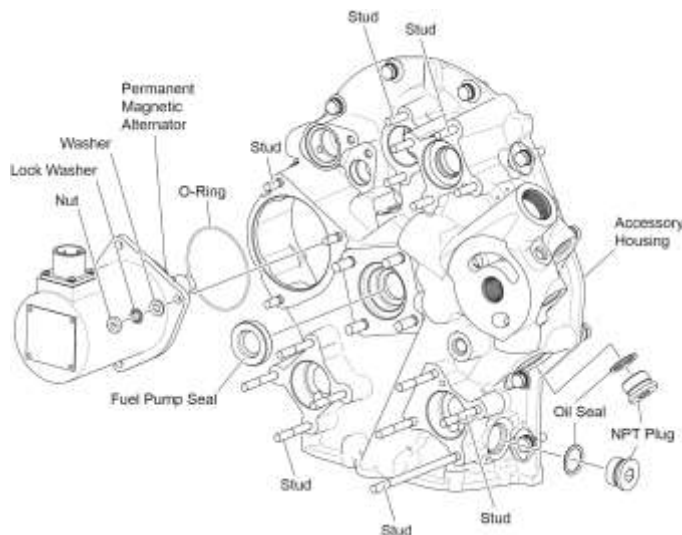

Figure 1
- I. Remove the bolts, nuts, lock washers, and washers from the external side of the accessory housing (Figure 1) and the bolts, lock washers, and washers that attach the accessory housing to the oil sump. Discard the lock washers.